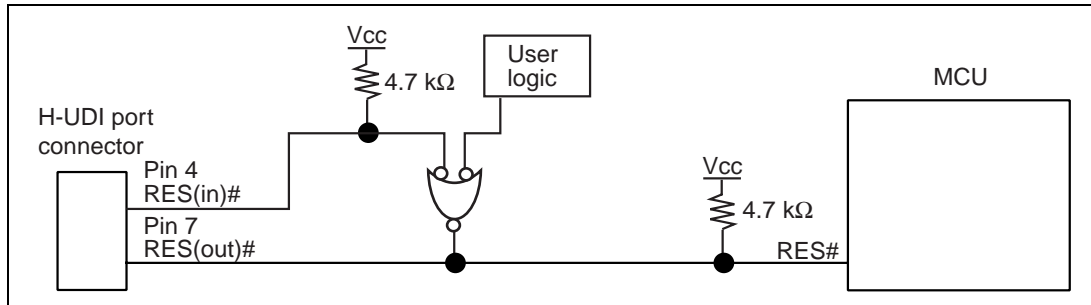

Figure 4.4 Example of Reset Circuits
- RES(in)# of pin 4 of the H-UDI port connector is a signal line in which the emulator outputs signals to the MCU. RES(in)# (pin 4) and the user logic reset circuit for the signal line must be connected to the MCU as shown in figure 4.4. RES(out)# of pin 7 of the H-UDI port connector is a signal line in which the emulator monitors the RES# signal of the MCU. The RES# must be pulled up before it is connected to pin 7 of the H-UDI port connector.